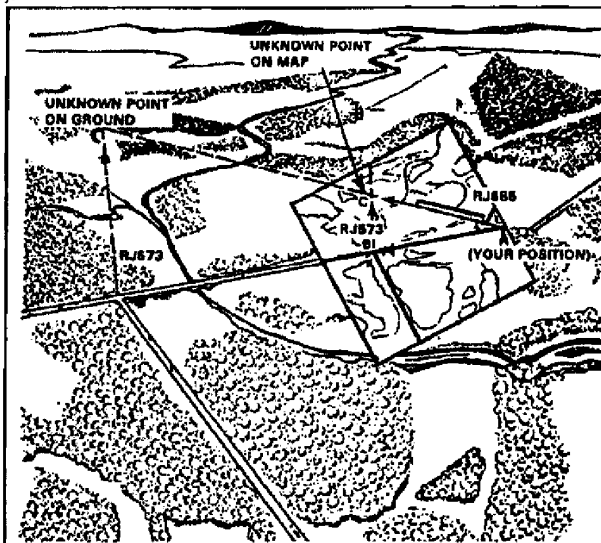

Figure C-36. Intersection without compass
d. Place the protractor on the map, ensuring that the zero-degree indication on the protractor is pointing to the top of the map (north) and the index point is placed center of mass on your location (figure C-36). Place a tick mark at the number of degrees you want to plot. Draw a line on the map from your position on this grid azimuth (32 degrees).
2. Use the straightedge method (when no compass is available) (figure C-36).